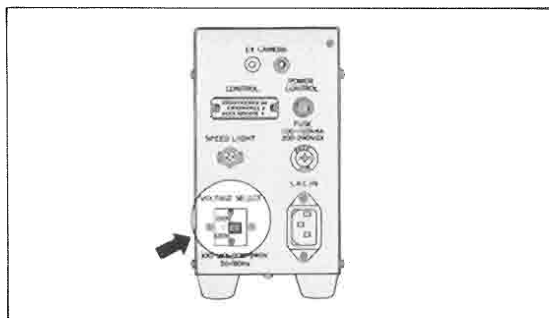

Fig. 2
- ③ Select a location with limited exposure to dust, vibration, high temperatures, humidity, and direct sunlight.
- ④ Be certain the line voltage indication on the power supply unit corresponds to the available line voltage. (Fig. 2)